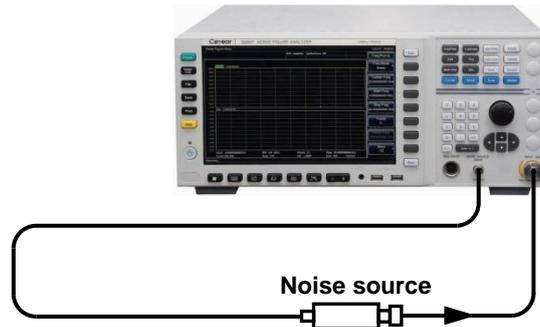

Fig. 3.42 Calibration connection
- Step 11.** Connect the noise source to the NFA for calibration as shown in Fig. 3.42. Press the **【Calibrate】** key to access calibrate menu, and press [Calibrate] menu key twice to calibrate the NFA.